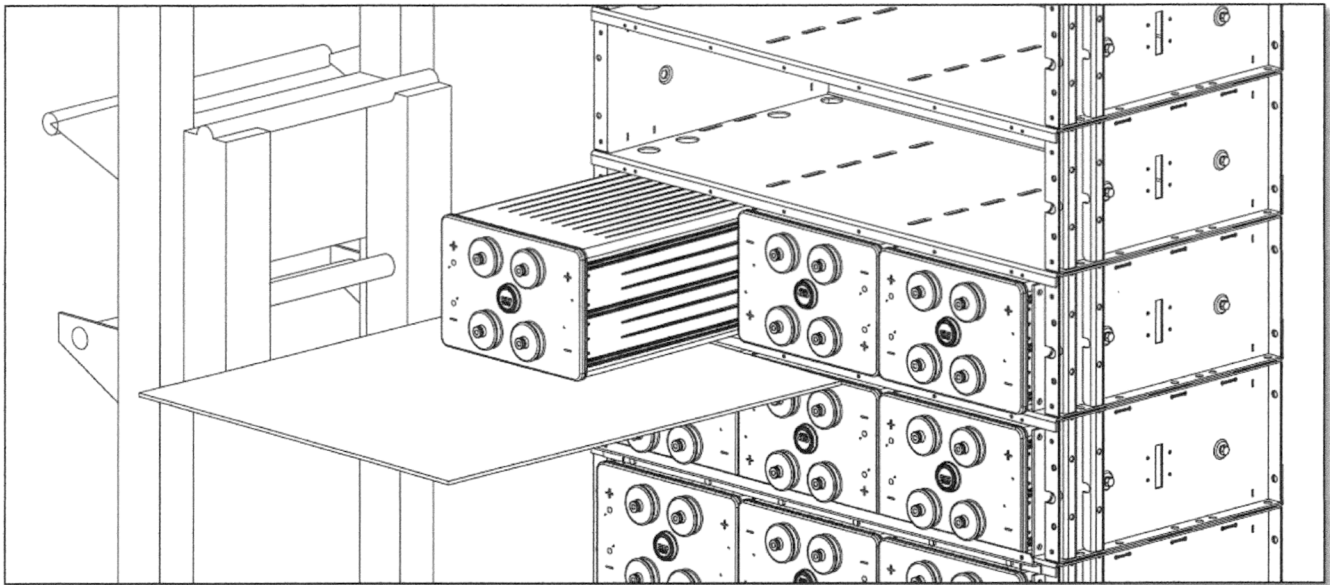

Figure 6-8 Cell Installation and Removal Using Lift Table
8. Prepare for cell removal by moving an insulated platform lift or equivalent lifting apparatus in proximity to the bottom of the stack module from which the cell is to be removed as shown in Figure 6-8. Make sure all exposed metal on the platform is insulated. Verify the capacity of the lifting apparatus is sufficient to safely lift the cell. Before removing the cell, note the orientation of the cell in the module, i.e., positive terminal up or down.